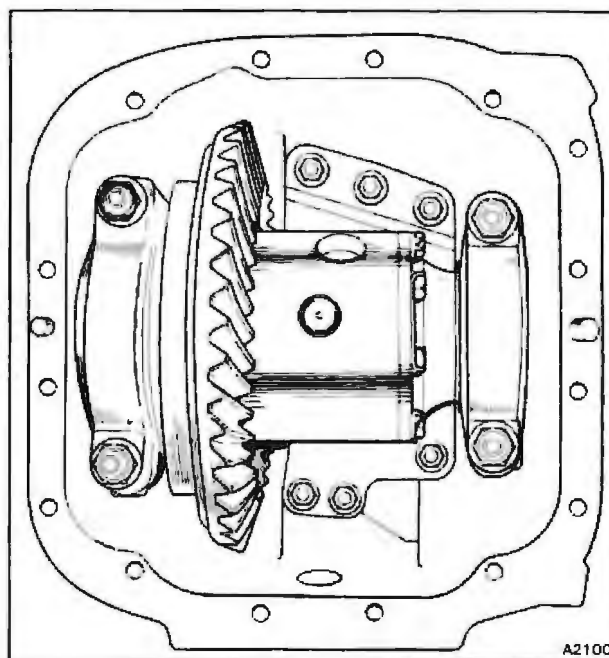

Fig. J2-3 Differential and crown wheel in position
4. Remove the nuts and washers from the bearing caps on each side of the crown wheel and differential assembly (see fig. J2-3).